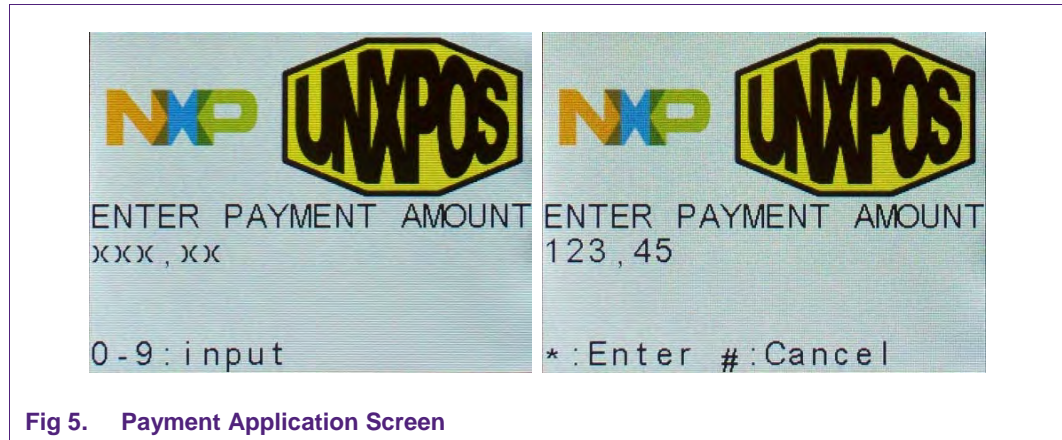

Fig 5. Payment Application Screen
1. Press key '1' to start the payment application as shown in Fig 5.